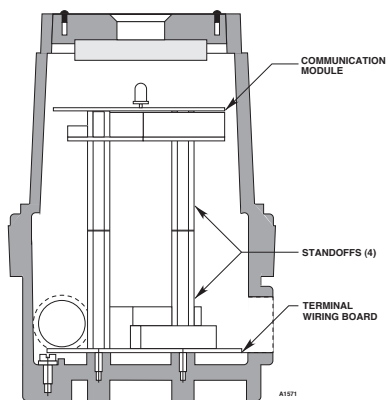

Figure 3-48—Printed Circuit Boards in Universal DCU
2. A communication module mounted above the terminal wiring board using the standoffs provided. See Figure 3-48.
Attach the communication module to the standoffs as shown in Figure 3-48. Connect the ribbon cable from the terminal wiring board to the communication module.
- Connect all external wiring to the terminal wiring board inside the DCU (if not already completed). Re-assemble the DCUEX as described in the "Wiring" section. When completed, it should look similar to the DCU as shown in Figure 3-48.